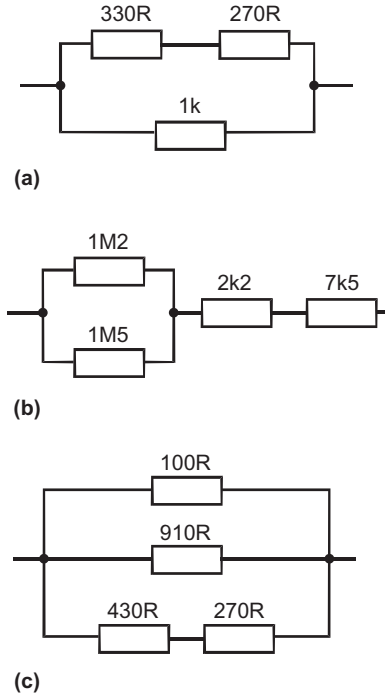

FIGURE 15.21
- 28 Find the effective resistance of each of the networks shown in Figure 15.21